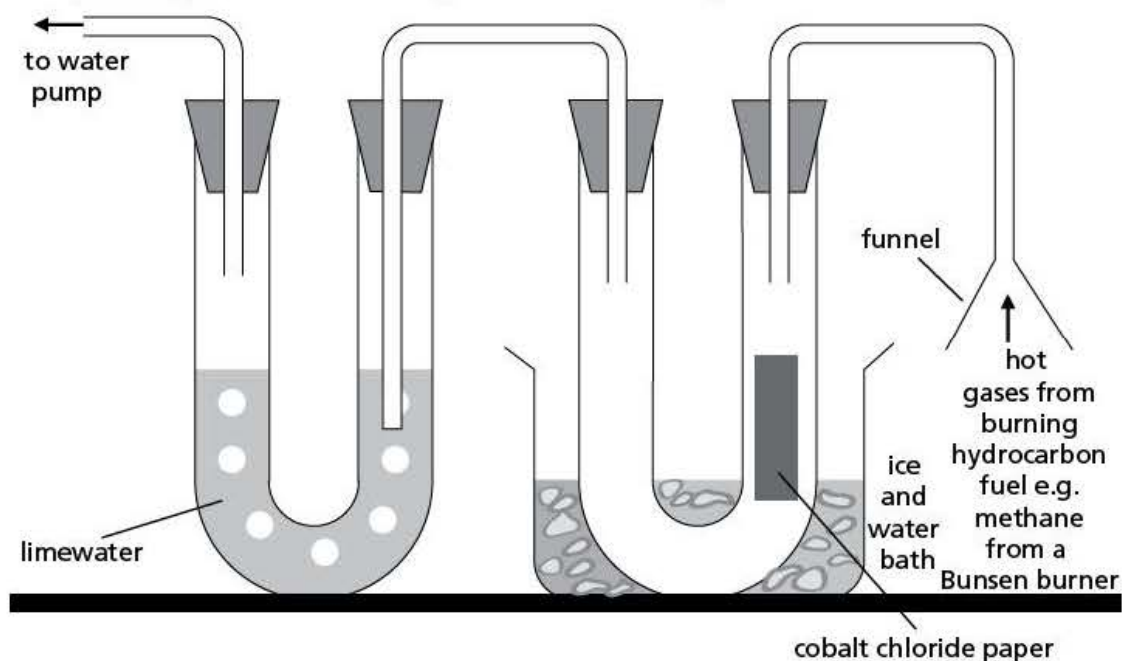

Figure 1
- 2 Set up the apparatus shown in Figure 1 behind a safety screen.